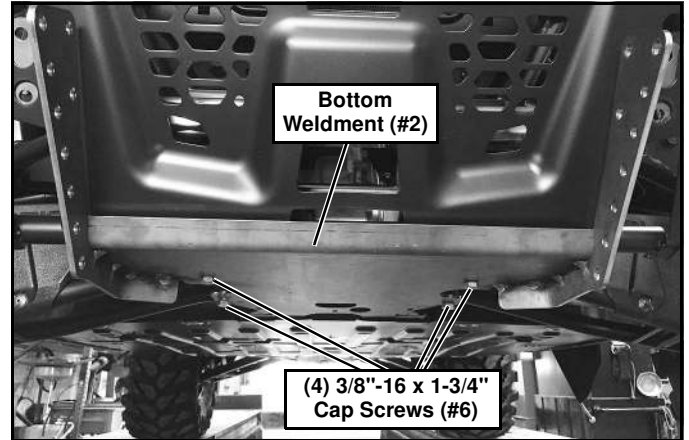

Figure 3
4. Align the four bottom holes in the Bottom Weldment (#2) with the four holes in the bottom of the vehicle frame. The front two bottom holes align with the holes that the hardware was removed from in step 1 (See Figure 3).
5. Insert (4) 3/8\"-16 x 1-3/4\" Cap Screws (#6) into the Bottom Weldment (#2) and into the vehicle frame. Secure with (4) 3/8\"-16 Locknuts (#8) (See Figure 3).